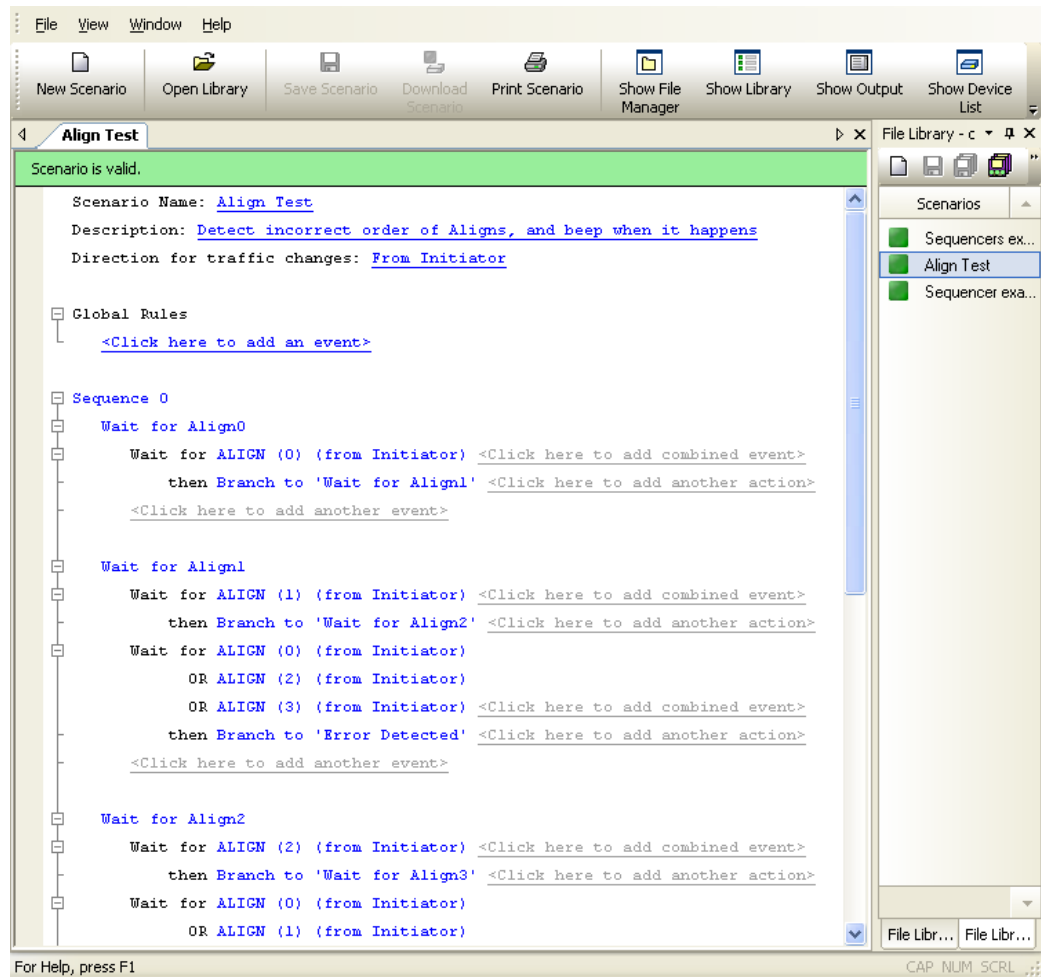
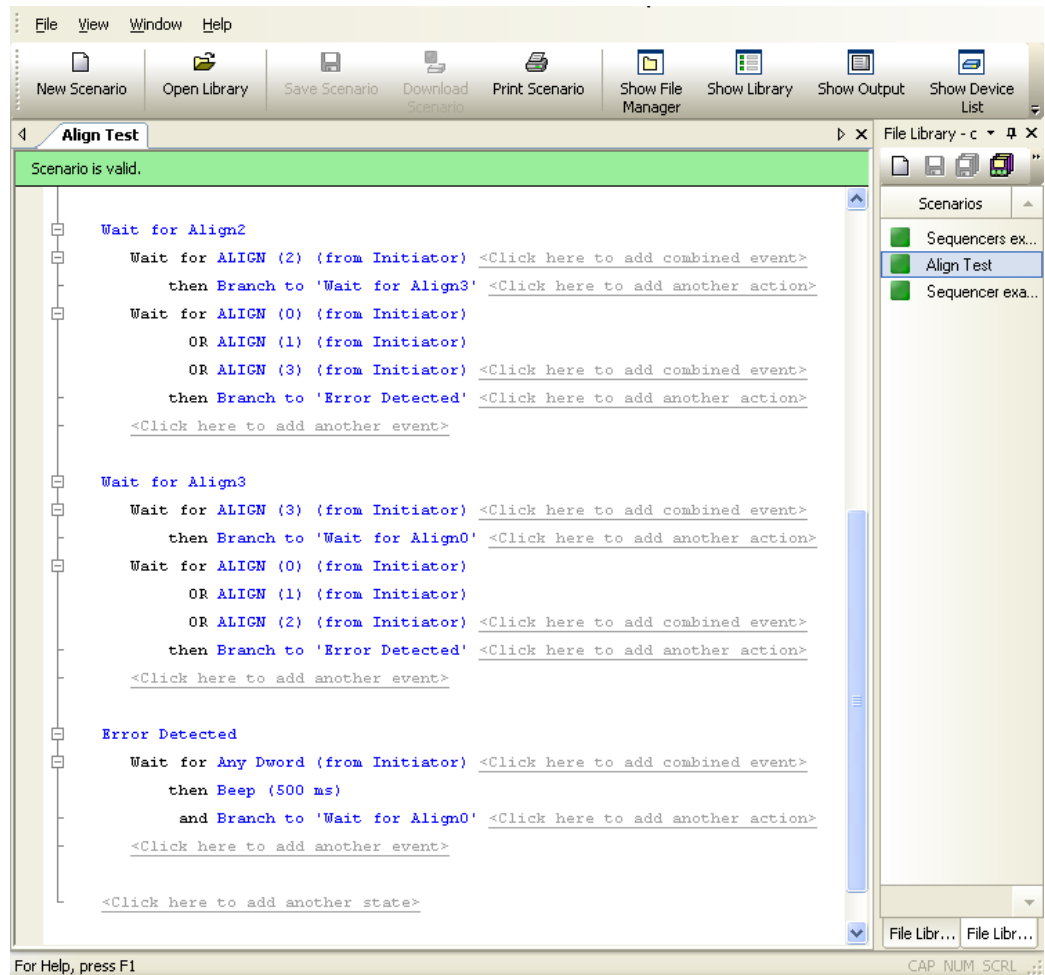

Figure 83 Example 8: Top Half of Scenario
Figure 84 Example 8: Bottom Half of Scenario
Step 3 In the File menu, select **Save Scenario** to save the scenario (Figure 83 and Figure 84).